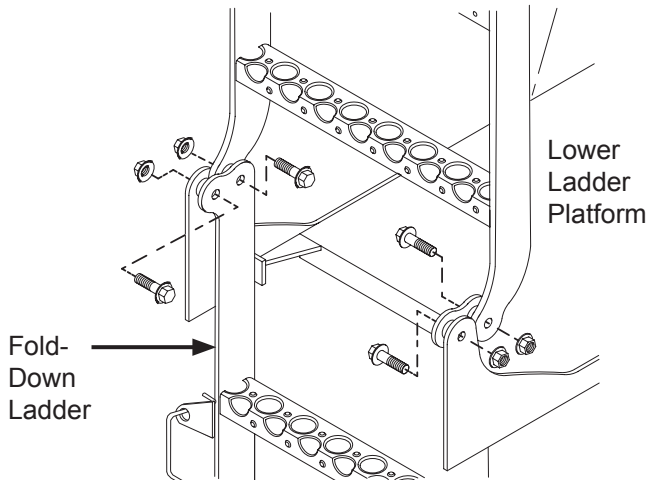

Figure 6: Install the new (4) bolts and (4) nuts to secure the platform to the ladder side.
8. Line up the fold-down ladder to the lower ladder platform and upper ladder as shown in Figure 6. The second person should hold both the fold-down ladder and the new platform for steps 9 and 10.
9. Install the new (4) bolts and (4) nuts to secure the platform to the ladder (see Figure 6).